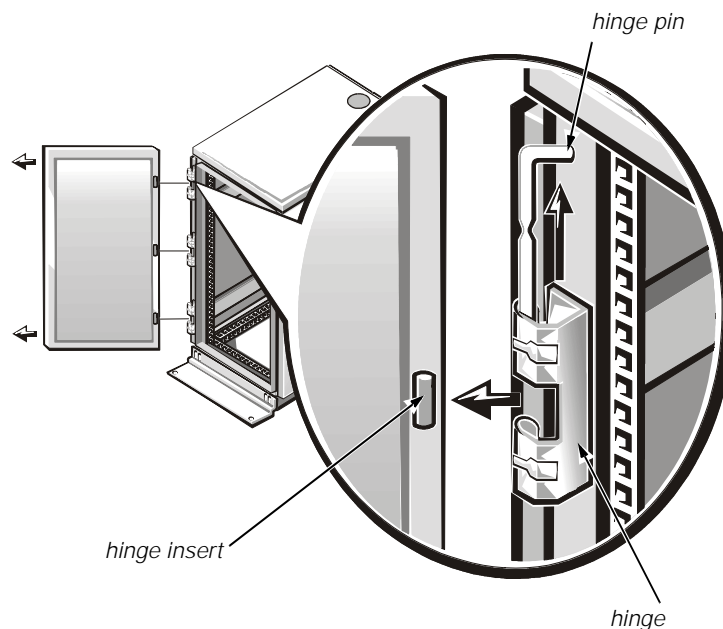

Figure 13. Removing the 24-U Rack Doors
3. Remove the front door from the rack as shown in Figure 13.
1. Lift the front door into position and align the hinges with the holes in the rack (see Figure 13).